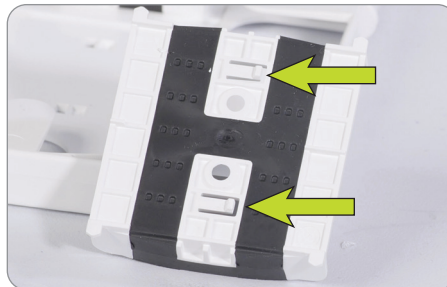

Figure 35
1. To add a splice module to Apex splice tray, simply align the latch tabs. (Figure 35)